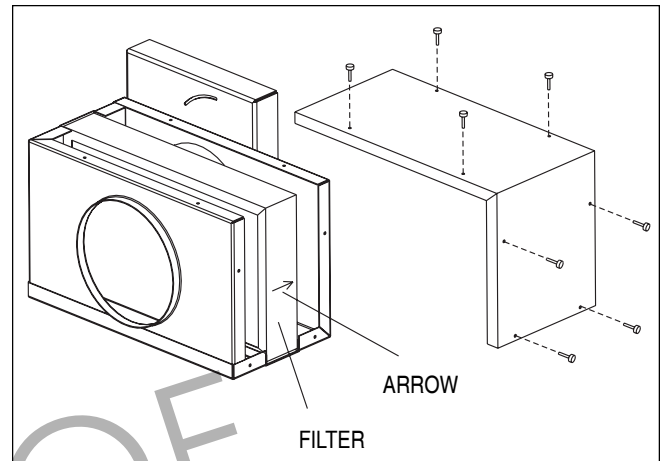

Figure 18. Filter Exposed for Cleaning.
A filter has been designed into the operation of this Mighty Max boiler. Its function is to filter the combustion air before it is delivered to the burner system. The filter is manufactured out of a polyurethane foam and may be cleaned with a mild soap and water solution. Clean the filter only after the filter has been removed from the filter housing (see Figure 18).
3. Remove the screws on the filter housing to expose the filter as shown in Figure 18.